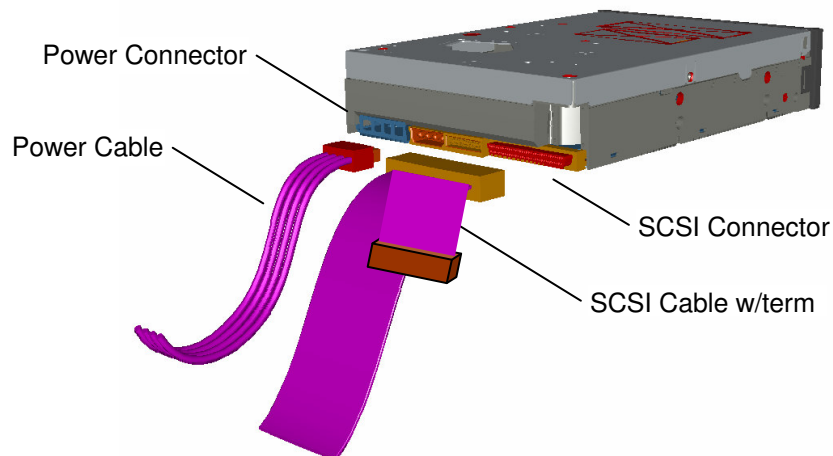

Figure 3.9 Connecting the cables to the Tandberg LTO HH tape drive
4. Connect the power cable and the SCSI signal cable, as shown in Figure 3.9.